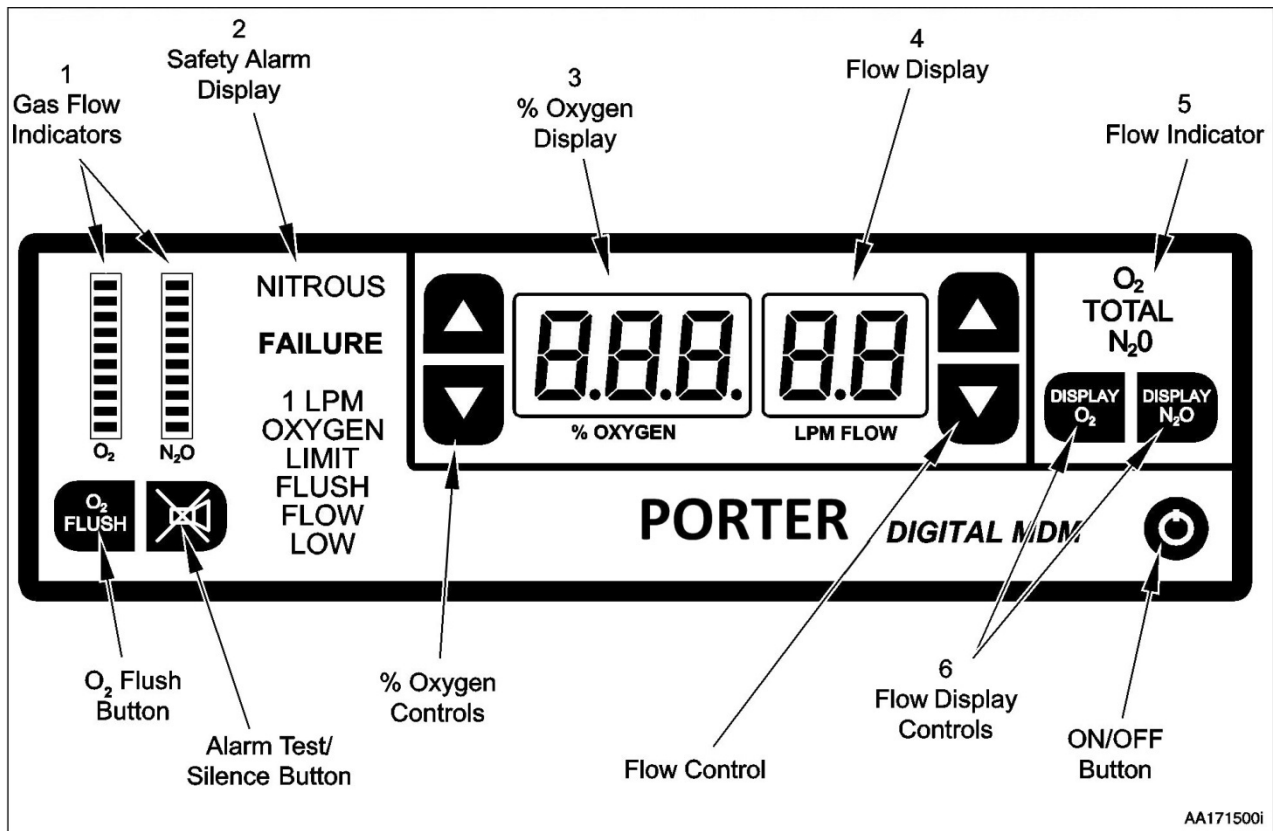

Figure 1. PORTER DIGITAL MDM Mixer Control Unit Front Panel (figure shows all LEDs illuminated)
Description of Unit: The DIGITAL MDM mixer consists of a Control Unit attached to a Base Unit via an Interface cable. Note - Control and Base Units are calibrated together and must remain together (match serial numbers on each unit). Only use Porter Interface cable (EMI protection). The Control Unit interface is shown in Figure 1. The device permits the operator to adjust the percent of oxygen through a range of 100% to 30% (and thereby control the ratio of oxygen to nitrous oxide). The operator can also control the total volume of mixed gas up to 9.9 liters per minute.
Displays and Indicators: In the following, the location numbers refer to Figure 1.
There are four alarm conditions on the DIGITAL MDM mixer. They appear in the safety alarm display (see Figure 1, item 2) only when conditions warrant. Otherwise, they are not visible. The alarm conditions are: